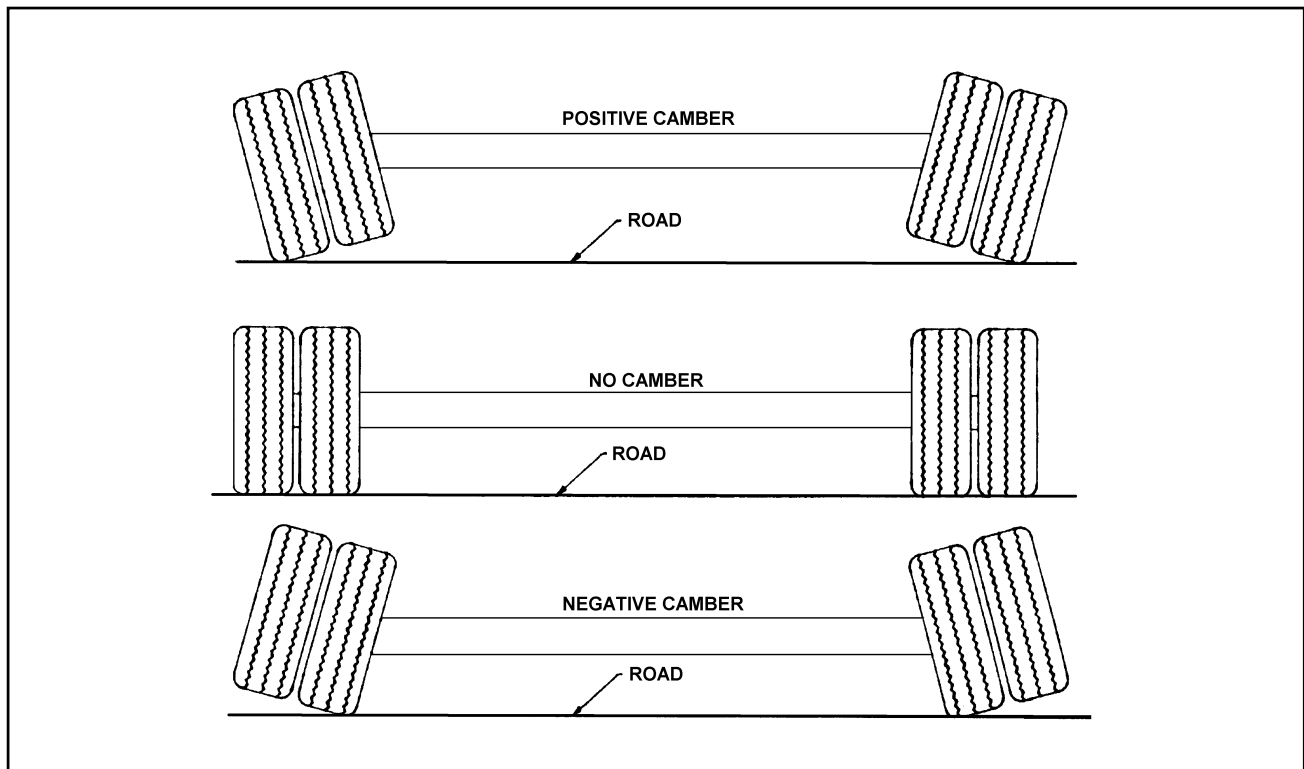

Figure 4-8 Examples of Camber
d. Follow the same procedures as in Section 4-10.1 b. and c., except place the axle gauge above and below the axle. If gauge point gap is found, the axle has positive or negative camber. The trailer axle has no camber from the factory. If it is found to have positive or negative camber, axle replacement is necessary (See Figure 4-8 for examples of camber).